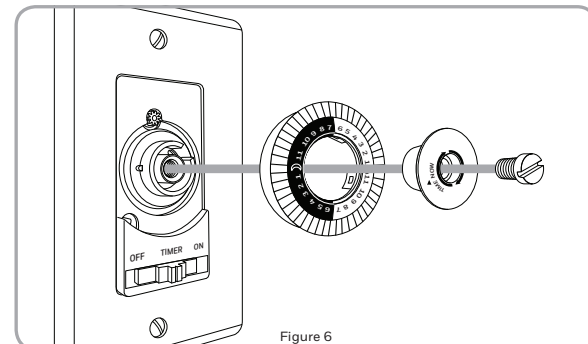

Figure 6
1. Using a dime, gently turn the center screw counter-clockwise. Remove the center screw, center and timer dial. (See Figure 6).